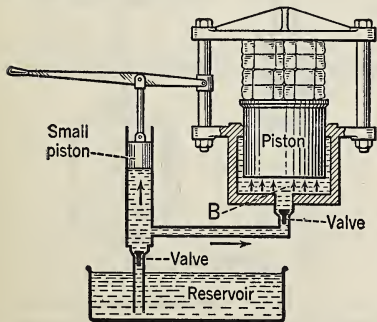

FIG. 40. The hydraulic press finds many uses.
41. How does the hydraulic press work? The commercial hydraulic press is an application of Pascal's principle. By reference to Fig. 40, we may explain the operation of such a press. There are two cylinders, a small one and a large one. In each one there is a piston which fits so tightly that the liquid cannot be forced past it. A lever is attached to the small piston. As the small piston is pushed down, some of the oil or water from the small cylinder is forced over into the large cylinder *B*, and the piston is lifted a trifle. As the lever is worked up and down, it continues to pump the liquid from the reservoir, and force it into the cylinder *B*. When the pressure is to be released, a valve not shown in the diagram is opened to let the liquid flow from *B* back into the reservoir.